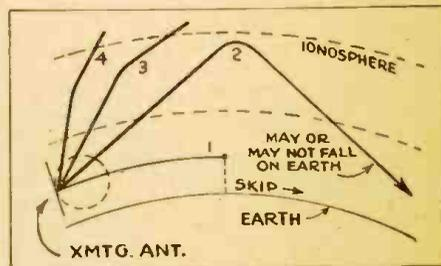

Fig. 4(d).—As the frequency increases, the higher-angle rays penetrate the Heavyside Layer, and those that return may miss the earth.
Let us now consider Figs. 4-A, -B, -C, and -D. We have shown in each a restricted cross-section of the Earth's surface, as represented by the long, curved lines, and the overlying Ionosphere, as represented between the two long, curved, broken lines. We also have our vertical antenna, as in Fig. 3, emanating 4 typical waves—the ground wave (1), and the low (2), medium (3), and high (4) angle waves.
In Fig. 4-A, the wavelength is very long (low frequency) as in commercial broadcast stations; in 4-B and 4-C the wavelength is shorter and shorter until in Fig. 4-D we have represented conditions obtaining at the ultra-short wavelengths, say, something of the order of 5 meters or so.
(1) For a given wavelength, the higher the angle of radiation, the deeper it penetrates into the ionosphere, or, otherwise stated—the harder it is to reflect. Thus in Fig. 4-A, for example, the high-angle wave (4) penetrates deep into the Ionosphere before it finally gets sent back to Earth. The medium-angle wave (3) is reflected much sooner, while the low-angle wave (2) barely skims the lower level of the layer. Compare this with the other three figures.
(2) For a given wavelength, the higher the angle of a reflected wave, the closer to the station it will return to Earth. Low-angle waves give better "DX" than high. In Fig. 4-A, again, we note that the high-angle wave returns to Earth much closer to the station than does the medium (3) wave, while the low-angle wave returns farthest away of all. Compare with the other figures.
(3) For a given angle of radiation, the shorter the wavelength, the deeper into the ionosphere it penetrates; or the shorter the wavelength of a wave, the harder it is to reflect. Let us consider the medium-angle waves (3), for example. In Fig. 4-A, where the wavelength is long, it is easily returned to Earth; in Fig. 4-B (shorter wavelength), it is also returned, but not until it has penetrated much deeper into the Iono-
sphere; in Fig. 4-C, where the wavelength is shorter still, it penetrates to the uppermost reaches of the Ionosphere before finally getting turned back; while in Fig. 4-D, at an ultra-short wavelength, the medium angle wave penetrates the Ionosphere completely and goes on out into space. Observe the behavior of the high (4) and low (2) angle waves in Figs. 4-A, -B, -C, and -D.
(4) For a given angle of radiation, the shorter the wavelength, the farther away from the station it returns to earth. Note the low-angle waves (2) in the figures where, as the wavelength becomes progressively shorter, the distance from the station at which the wave returns to Earth becomes progressively greater.
(5) Notice that at the relatively longer wavelengths (Figs. 4-A and 4-B) the reception is continuous until the waves become too attenuated to actuate receiving systems any longer. The ground wave takes care of receivers up to 40 miles or more, and the easily-reflected long-wavelength sky waves return to Earth continuously to maintain communication.
However, for the short wavelength used in Fig. 4-C, entirely different circumstances obtain. Here the high-angle waves (4) are lost out in space—the Ionosphere failing completely to return them—and the medium-angle radiation returns to earth well beyond the ground wave region thereby creating a skip distance range. Generally speaking, the skip distance range increases as the wavelength decreases until, when we get up into the ultra-short waves (Fig. 4-D) the Kennelly-Heaviside Layer is unable to return either the high or the medium angle waves, and usually either fails or encounters great difficulty in returning even the low angle waves, which frequently are reflected at such small angles that they come down and miss the earth.
A common cause of trouble in sets of this type is a short circuit or excessive leakage in C3 in Fig. 4. This will cause an excessive amount of current through R1 and R2, tending to overload and burn up these units. At the same time that excessive current flows through R1 and R2, the voltages will rise across these resistors and larger than normal bias will be applied to the amplifier
Fig. 4.—A standard power pack, with two leads for returns of grids which are to be maintained at different negative voltages. It is likely that —C1 is brought to the output tube grid, and —C2 to the I.F. and R.F. grid returns.